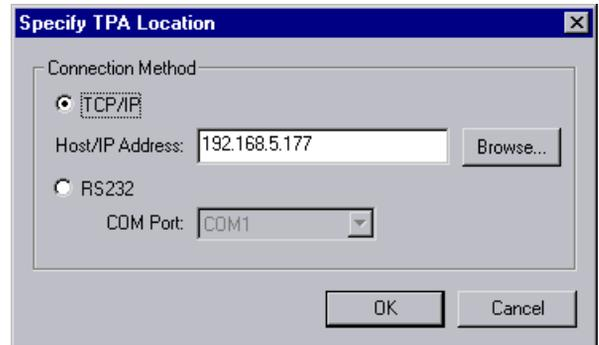

Figure 3-2 TPA location
- c. Click on **Change location** to display the Location dialog as shown in Figure 3-2. To specify the location of your MultiTrace unit, either:
- d. If the address to your trace unit is not displayed as shown in Figure 3-2, click **Browse** and select your trace unit from the list as shown in Figure 3-3 on page 3-4.